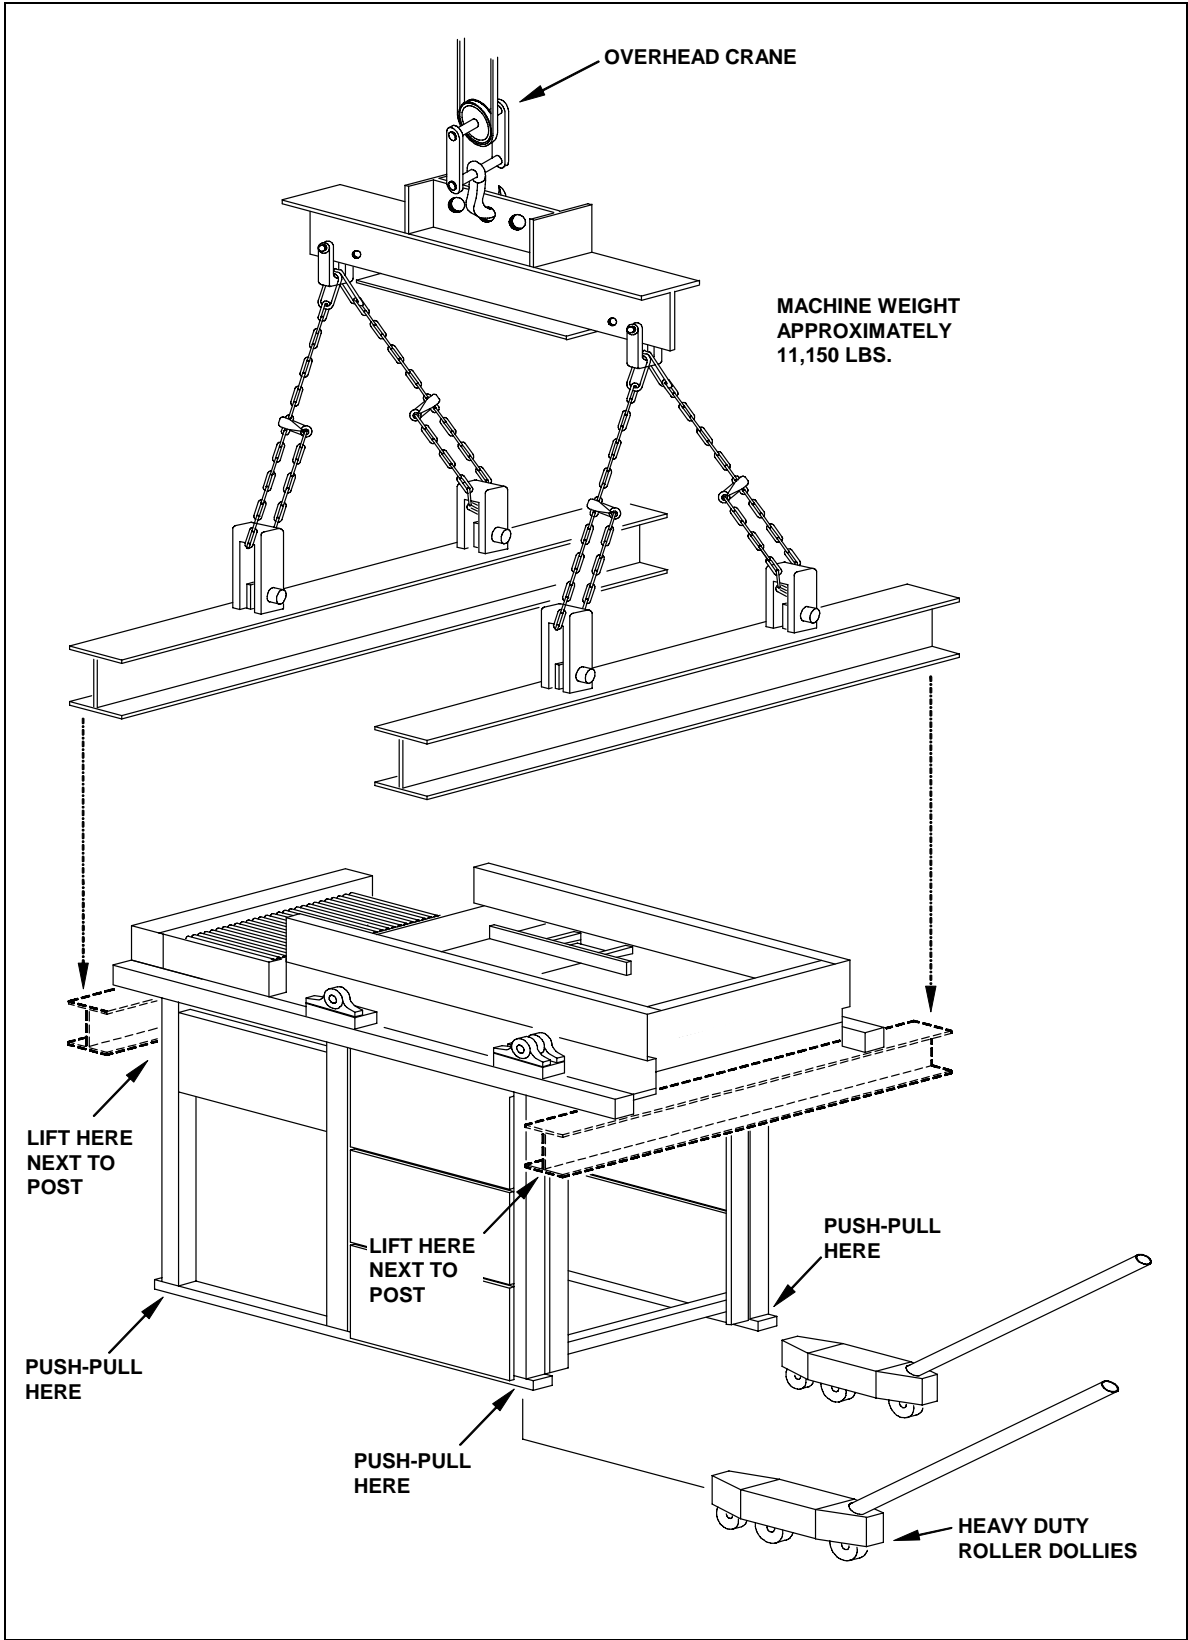

Figure 6-3: Lifting the Machine
**Lifting the machine with a device that is not configured or rated for the machine's load capacity is dangerous to both the equipment and to personnel, and could damage the machine's structure. Ensure that the crane, forklift, and tow trucks being used can lift the full weight of the machine. The palletizer or unitizer weighs approximately 11,150 pounds. (See Figure 6-3)**
The machine is also structurally capable of being lifted from above at each end of the machine from below the 3" x 5" structural steel frame that runs the full length of the machine. (See Figure 6-3) Any other lifting method could result in distortion of the machine's frame, and/or mechanical damage.